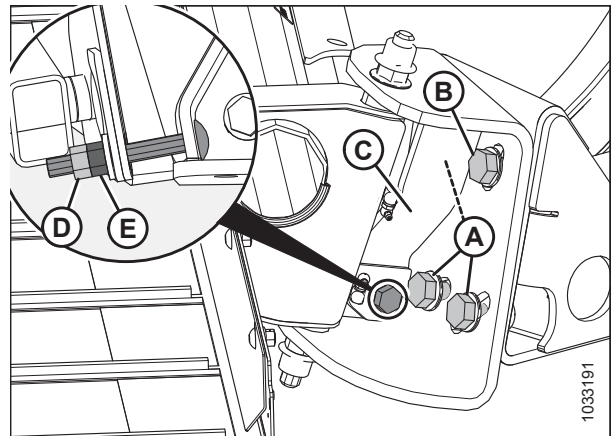

Figure 3.16: Deck Pivot
One of shorter bolts (A) is hidden behind bracket (C) and is not shown in Figure 3.16, page 59.
2. Loosen jam nut (D).
3. To increase the distance between the ground and the deck, tighten nut (E).
4. To decrease the distance between the ground and the deck, loosen nut (E).
5. After adjustment, tighten jam nut (D).
6. Torque bolts (A) and (B) to 332 Nm (245 lbf-ft).